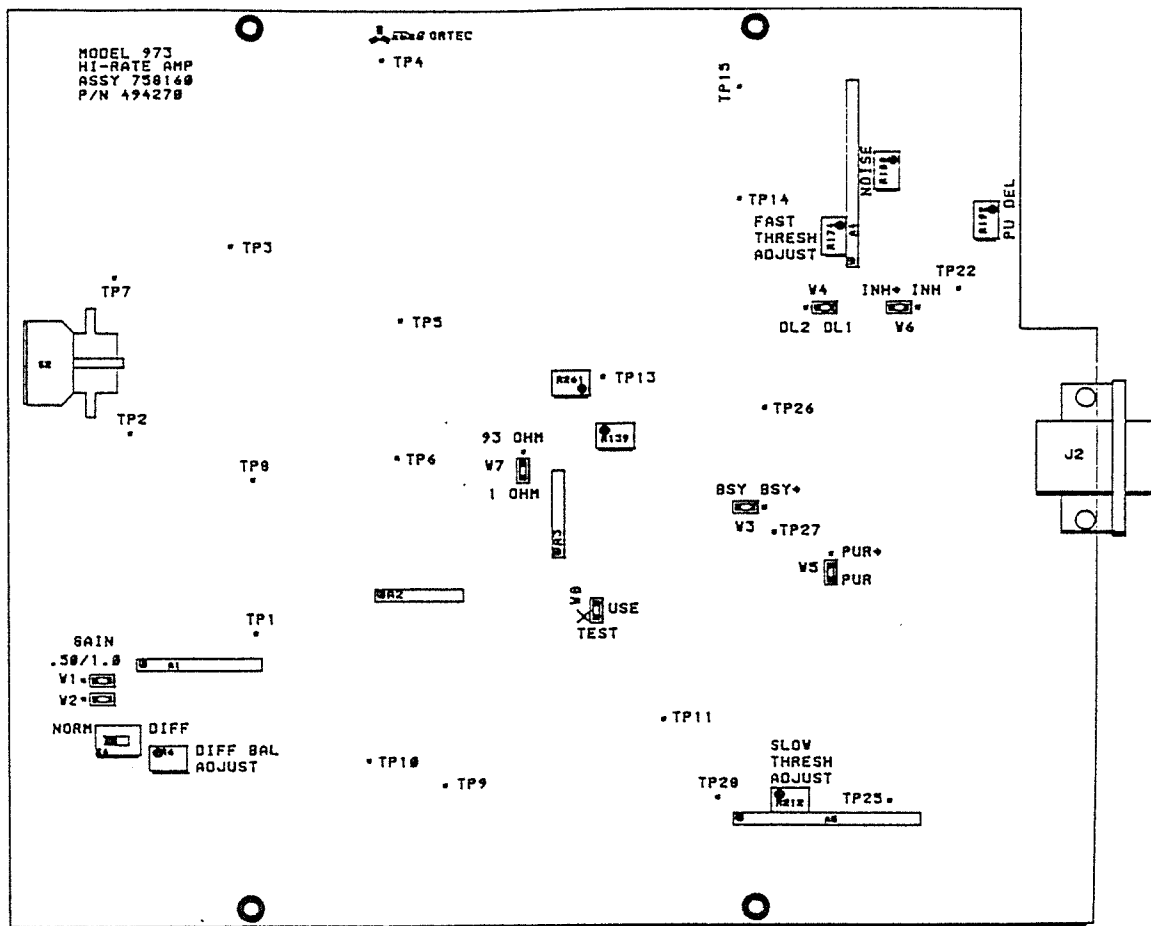

Fig. 4.5. Position of Internal Controls.
**GAIN BALANCE** The Gain Balance adjustment is used to adjust the gain balance between the positive and negative inputs and to adjust the balance between the NORM and DIFF inputs when the differential input mode is used. First set the internal NORM/DIFF slide switch to DIFF. The initial adjustment of Gain Balance is made by providing the same input to both the NORM and DIFF inputs. This can be accomplished by using a BNC "T" connector to feed the input signal on the front-panel (NORM) input to the rear-panel (DIFF) input. Set the amplifier gain to maximum. Connect an oscilloscope to the unipolar output. While observing the signal on the oscilloscope, use a small screwdriver to adjust the Gain Balance potentiometer (internal adjustment has been factory set; see Fig. 4.5) until the display on the oscilloscope shows minimum signal. Remove the BNC "T" connector when the adjustment is complete, and the positive and negative gains will be matched for use with the NORM input.